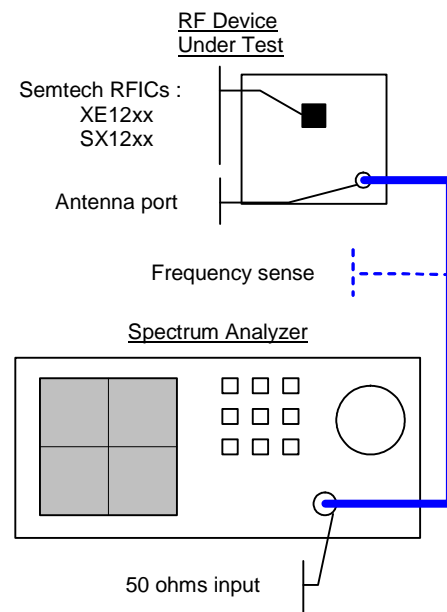

Figure 4. Spectrum Analyzer Test Setup
Notes: (1) On the test setup described on Figure 4, the 50 ohm cable connection can be replaced by antenna(s). The user should adjust the reference level of the spectrum analyzer accordingly.
(2) On some of the Semtech RF ICs, the unmodulated carrier can be generated at the center frequency of the channel (XE1203F, XE1205, SX1230) by disabling the modulation. On others (SX1211, SX1210, SX1212) the carrier is always offset by the frequency deviation (+ or - F_{dev} , as programmed in the transmitter register). This is to be included on the calculus of ϵ .